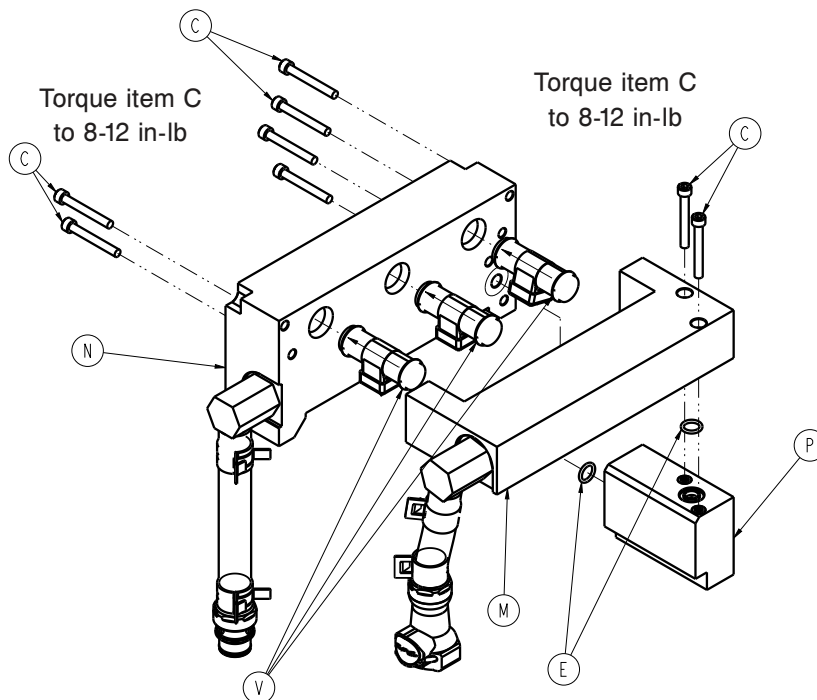

Figure 44: Manifolds
19. Using a 5/32 Allen, remove and save the four screws (C) that secures the return manifold assembly (N) to the supply manifold assembly (M). (Figure 44 on page 59)